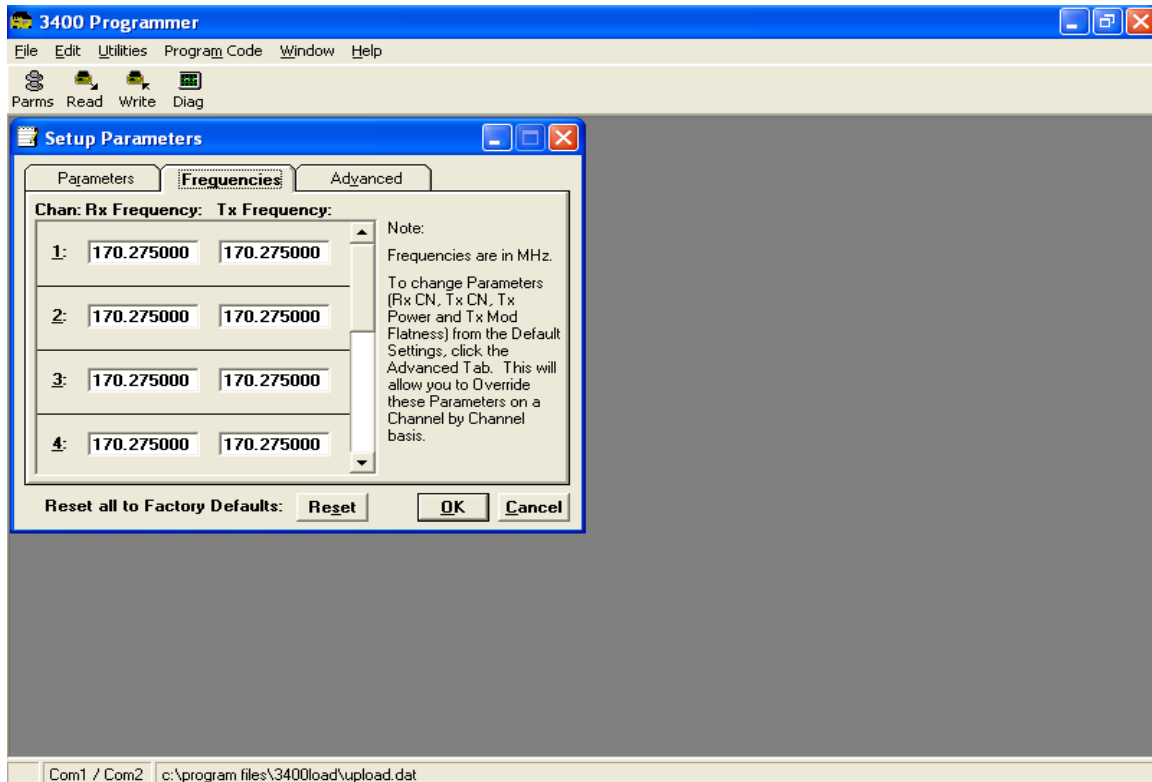

Figure 5: Programming the Frequencies
- h. After the programming is done the window will go blank and Figure 5 will appear. The programming is complete.